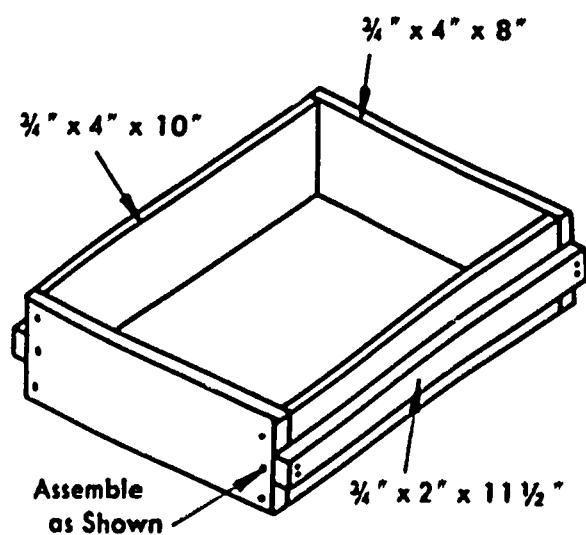

Fig. 98-1. Flask
5. The flasks can be made from wood if no others are available. See Fig. 98-1.